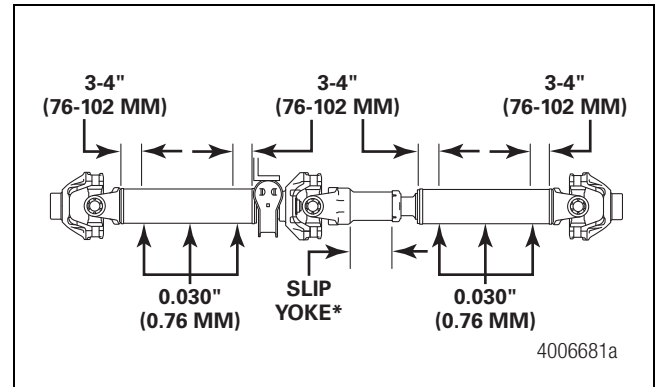

Figure 12.5
3. Ensure that the driveshaft is straight within 0.030-inch (0.76 mm) on the tube 3-4-inches (76-102 mm) from the front and rear welds, and 0.030-inch (0.76 mm) at the center of the tube. Figure 12.5.